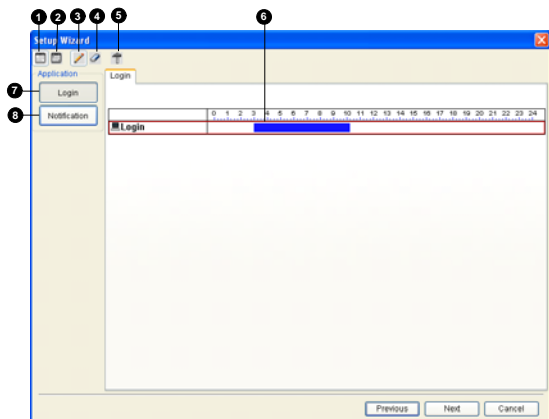

Figure 1-26
1. On the Schedule window, double-click an established plan. A plan dialog box similar to Figure 1-26 appears.
2. Click the **Advanced Setting** button (No. 5, Figure 1-26). The Advanced Setting dialog box appears.
4. On the plan dialog box, click the **Notification** button (No. 8, Figure 1-26), drag the mouse over SMS and / or E-mail timelines to define the Start time and End time to send out alerts.